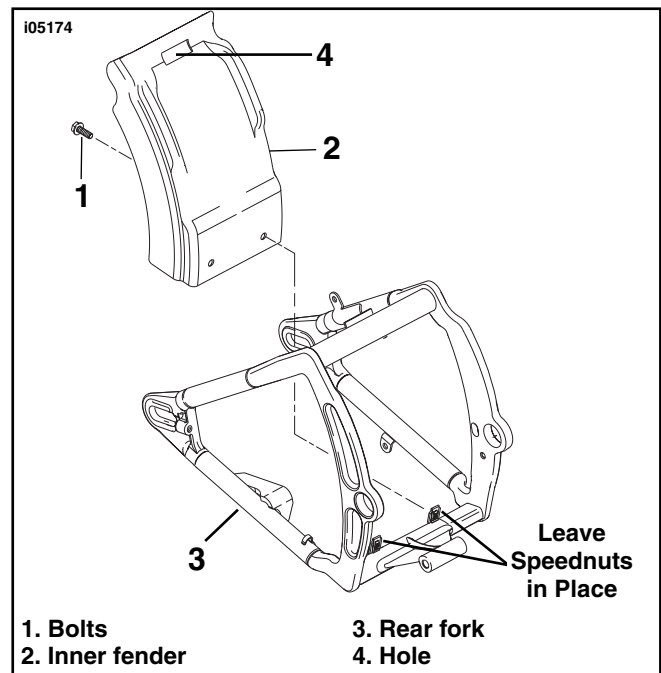

Figure 1. Remove Existing Inner Fender
3. See Figure 1. Remove the existing inner fender (2) by removing the two lower bolts (1) from the speednuts securing inner fender to rear fork tabs(3). Bend upper right corner of fender towards rear tire and lift upward to clear hole in fender (4) from tab on rear fork. Discard inner fender and bolts, however leave speednuts in position on tabs.